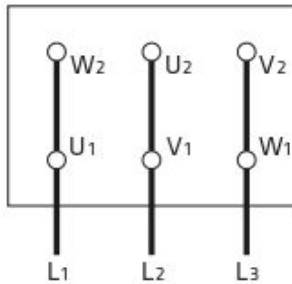

Figure 7a. Δ - connection
- The mains connection on the terminal box depends on the nominal power of the motor, the power supply and the type of connection. The necessary connection of the bridges in the terminal box is shown in the following (*Table 2* ve *Figure 7a, 7b, 7c*).